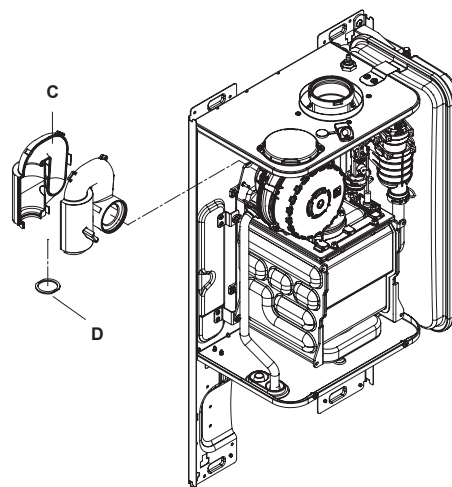

Fig. 52
- Replace the flange (D fig. 52) after having removed the 2 screws and divided in two part the silencer (C fig. 52).